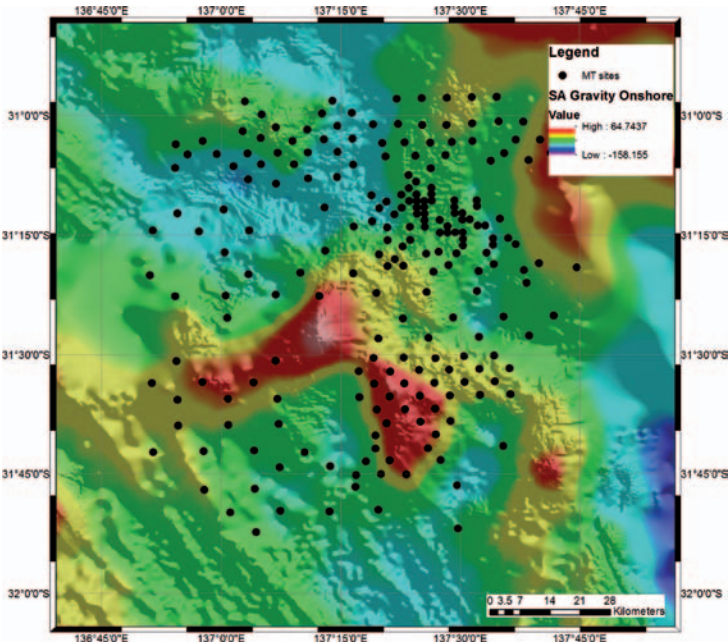

Figure 1. Olympic Domain broadband and audio magnetotelluric (MT) in-fill survey sites.
The Olympic Domain broadband and audio magnetotelluric (MT) in-fill survey completed data acquisition end of June 2018. The array of 320 MT stations have been collected across the Stuart Shelf, covering prospects such as Carapateena, Emmie Bluff, Red Lake, Punt Hill and Maslin. The array covers an area of ~100 km with site spacing ranging from 1.5 km – 8 km (Figure 1). Data processing is in its final stages, and preliminary models will be presented at the Australian Geoscience Council
Most recently, the Sydney–Gunnedah 3D model has been completed and a GSNSW report published (Oliveira and Davidson, 2018). The 3D geological model for the Sydney–Gunnedah Basin (Figure 1) was created to provide insights into the sub-surface geology of the region and add detail to the consolidated cover volume created in the NSW depth to basement model (Robinson, 2017). It also delivers a geological framework for future detailed modelling, by highlighting regional and basin-scale features, mapping the geometry of geological structures under cover, and refining the stratigraphy of major units in areas with limited information. The model highlights distinct changes in sea level and depositional environment, as well as the structural architecture and fault movements experienced by the basins. The modelled features will provide context and information to support resource exploration and land-use planning.